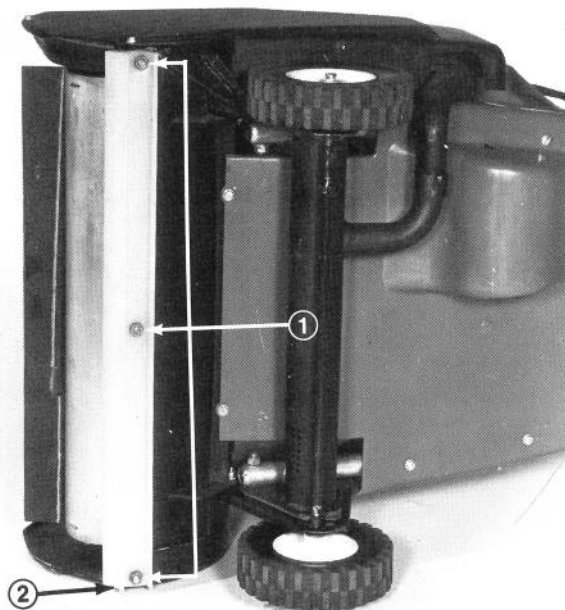

Figure 12
3. Remove three locknuts and carriage bolts holding scraper against bottom of impeller housing (Fig. 12).
4. Install new scraper with three carriage bolts and locknuts (Fig. 12).